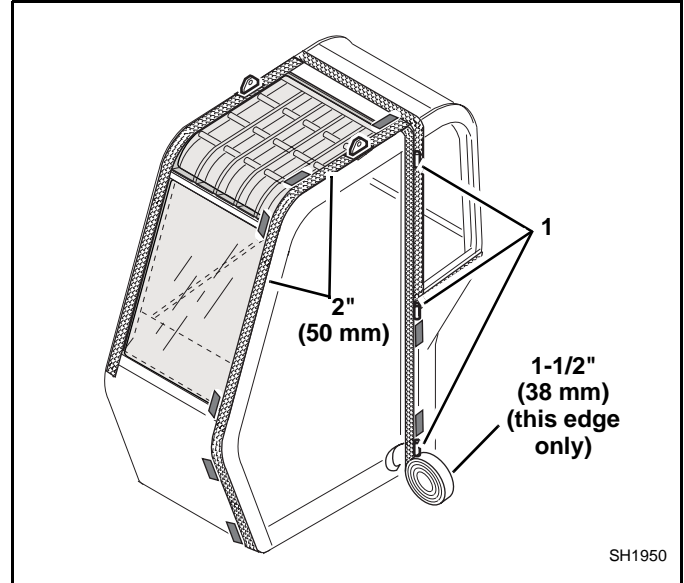

Figure 9
3. Align and apply the 2" (50 mm) wide hook strip material (Figure 9, 1) to the door frame top and left sides, with firm pressure. Apply the 1-1/2" (38 mm) wide hook strip material (2) to the door frames right side, just left of the door hinge brackets (Figure 9, 1). Be careful to minimize contact with fingers. Use (Figure 9) and also the tape marks applied to the door section during step 2 as a guide. Use the roller and firmly roll the strips into place making sure the strips are laying flat and in full contact with the bonding surfaces (cab metal and glass).